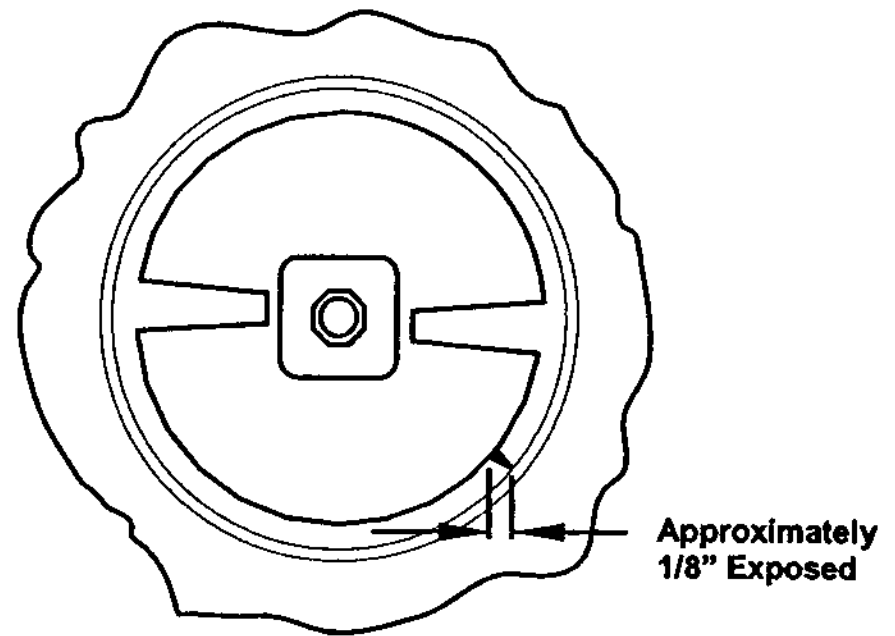

**Fig. 16**
e. Insert the dasher assembly into the freezing cylinder as far as possible (Fig. 15) being careful not to damage the scraper blades. Damage will occur to the scraper blades and the dispenser will not operate properly if the scraper blades are installed facing in a clockwise direction (Fig. 16).
**Note:** The stator rod has been deleted from Fig. 15 and Fig. 16 for clarity only. They must be installed for proper machine operation.
- c. Assemble and install the irreversible rear seals with the rubber portions toward the rear of the freezing cylinders as indicated in Fig. 16.